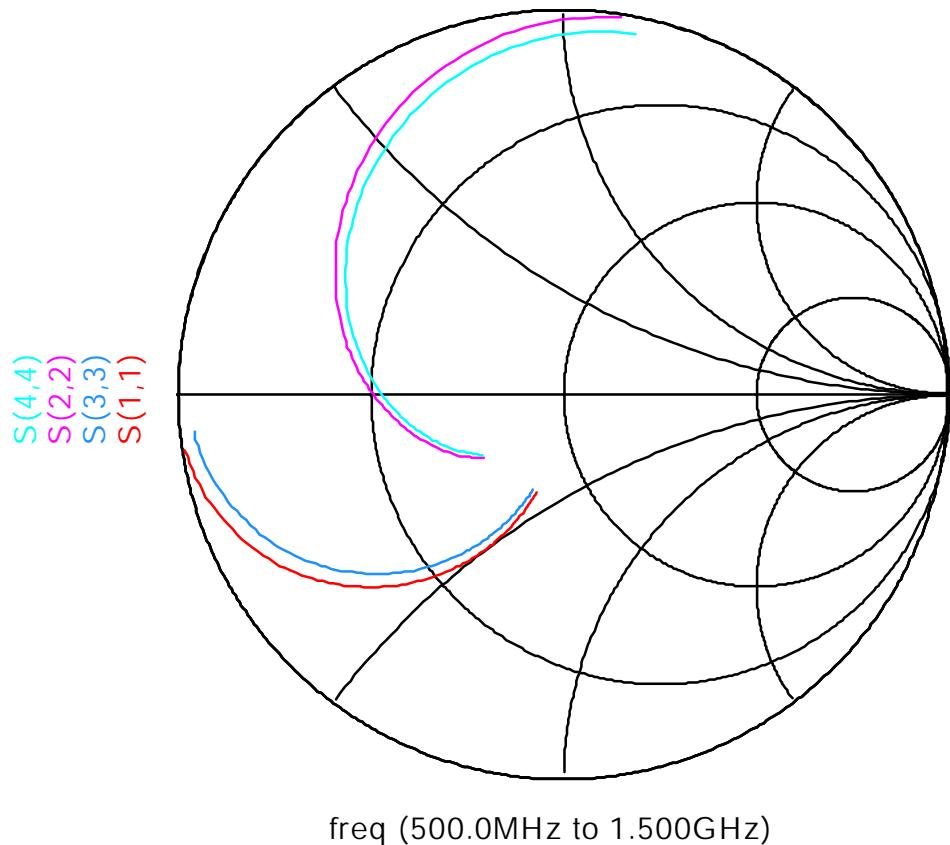
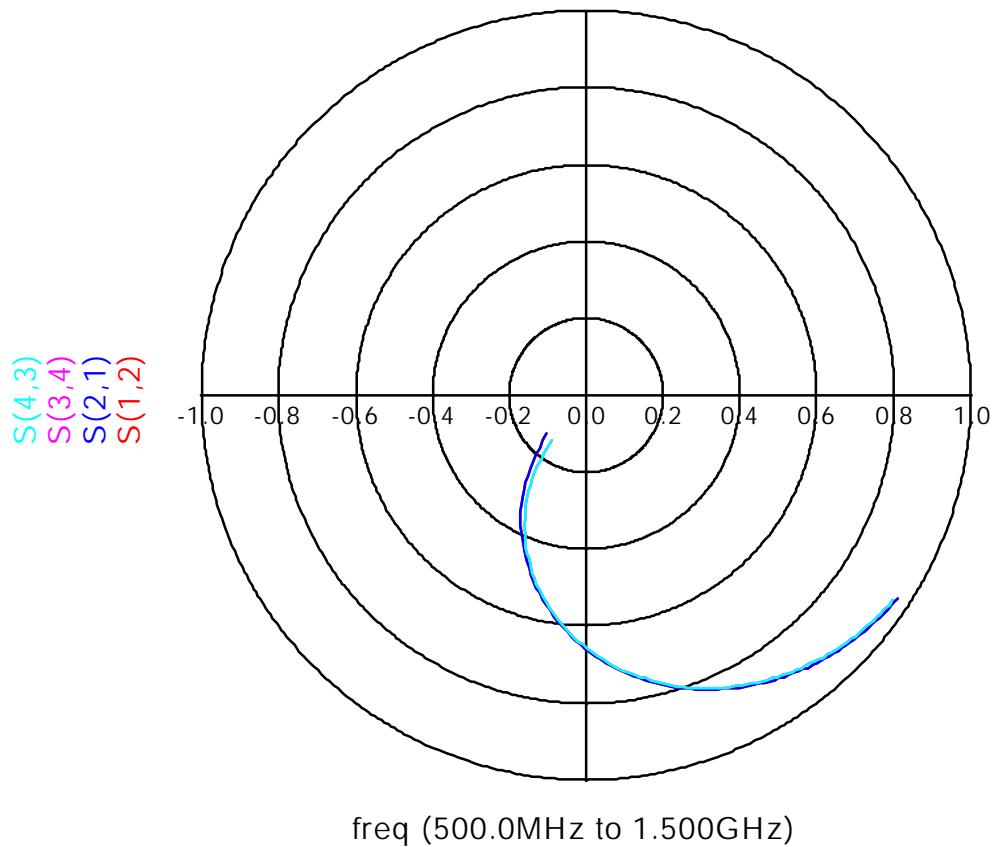

Figure 4. Frequency Response For Γ_s (S_{22} , S_{44}) And S_{11} , S_{33} .
Figure 5. Frequency Response For S_{12} , S_{34} And S_{21} , S_{42} .
3. Simulate S_{11} , S_{21} , S_{12} and S_{22} for each sub-circuit to obtain the results shown in Figure 4 and Figure 5. Note that the S-parameters for the second sub-circuit will be named S_{33} , S_{43} , S_{34} and S_{44} .